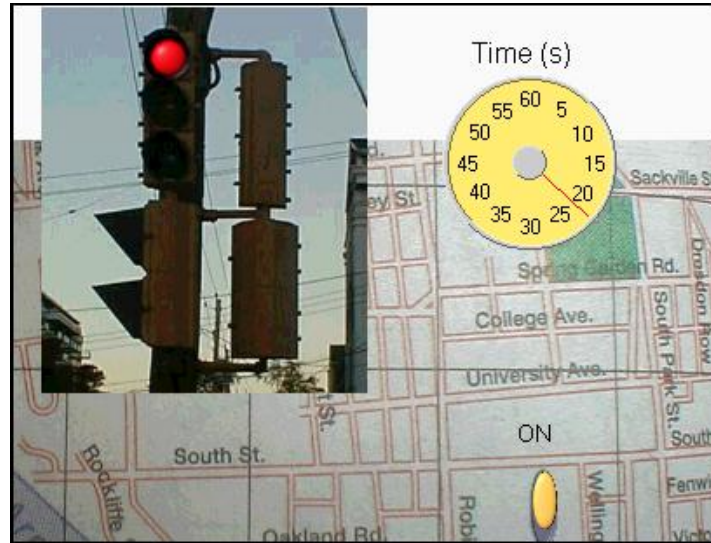

**Figure E4-4. Frequency Response Verification of Real-World Circuitry**
13. Click **Run Once**. LabVIEW SignalExpress then run a frequency sweep using NI ELVISmx and collects 10 points per decade. **After** the results are generated, they are displayed on the graphs, along with the simulation results. The overall result is shown in Figure E4-4. The white traces are measured data, and the red tracers are simulation results.